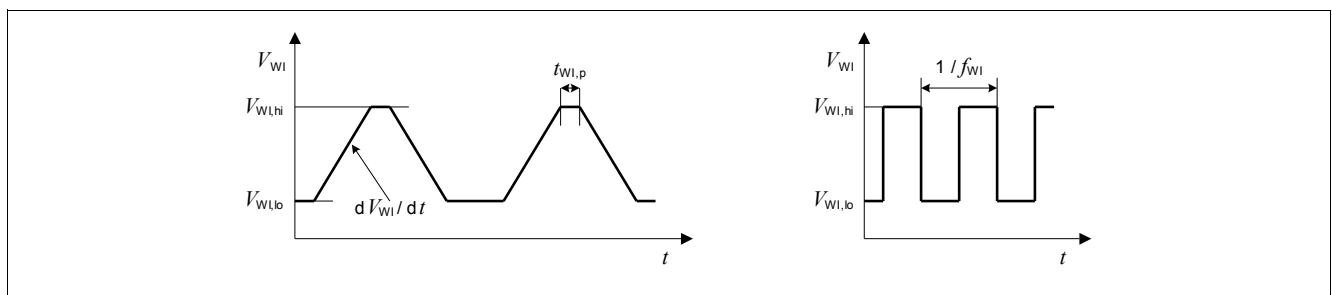

Figure 10 Test pulses watchdog input WI
The watchdog is triggered by a positive edge at the watchdog input “WI”. The signal is filtered by a band-pass filter and therefore its amplitude and slope have to comply with the specification P_8.2.10 to P_8.2.14. For details on the test pulse applied, see **Figure 10**.
- 2) For details on the test pulse applied, see **Figure 10**.